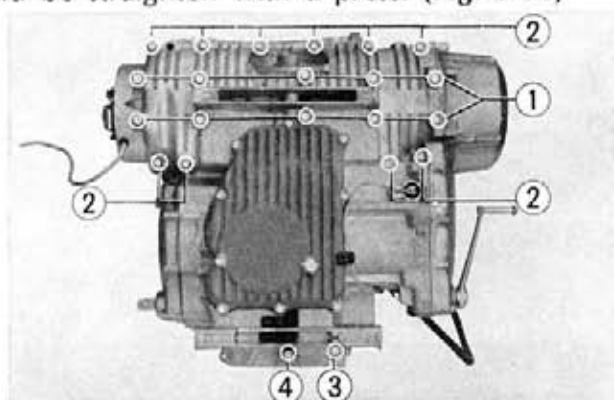

Fig. 3-74 ① 8mm bolts ② 6mm bolts ③ 10mm nut ④ 8mm nut
13. Unscrew the lower crankcase mounting bolts and separate the lower crankcase from the upper crankcase. (Fig. 3-74)